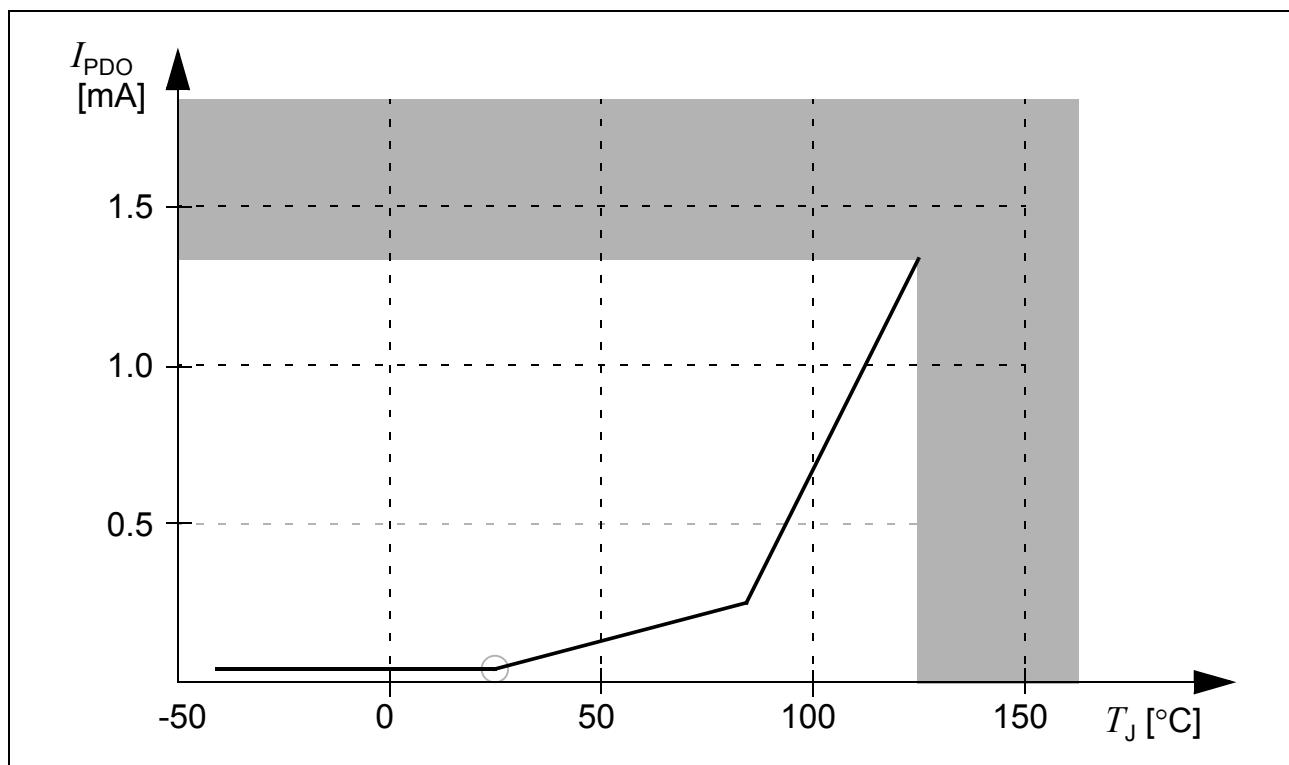

Figure 13 Sleep and Power Down Leakage Supply Current as a Function of Temperature
- This parameter is determined mainly by the transistor leakage currents. This current heavily depends on the junction temperature (see Figure 13). The junction temperature T_J is the same as the ambient temperature T_A if no current flows through the port output drivers. Otherwise, the resulting temperature difference must be taken into account.